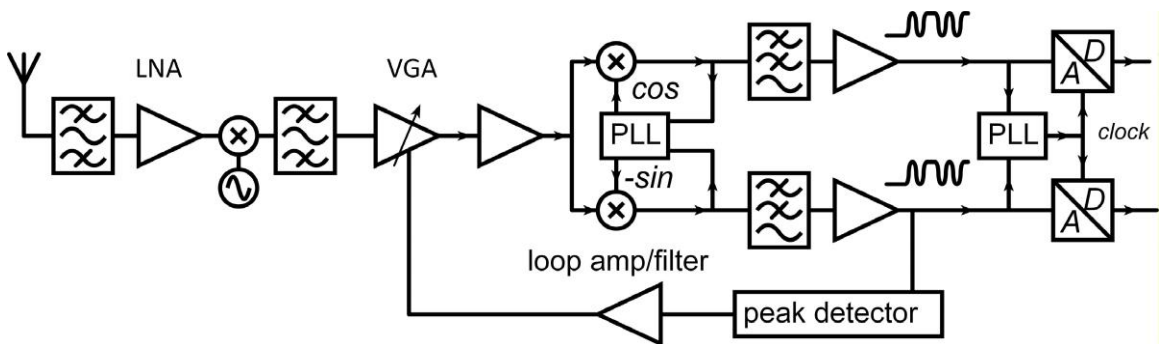

Figure 2: Superheterodyne receiver with PLLs for the 2nd local oscillator and for clock and data recovery.
Figure 2 shows a superheterodyne receiver architecture. The signal is amplified by a low-noise amplifier which serves to suppress the input-referred noise of the mixer. The mixer down-converts the signal to an intermediate frequency (IF). At the IF, very sharp filters remove adjacent-channel and nearby-channel interference, and a great deal of amplification is provided.
The transmitter of Figure 1 and the receiver of Figure 2 are far too complex for the ece145C/218C students to complete as a 1-term laboratory project. We must simplify